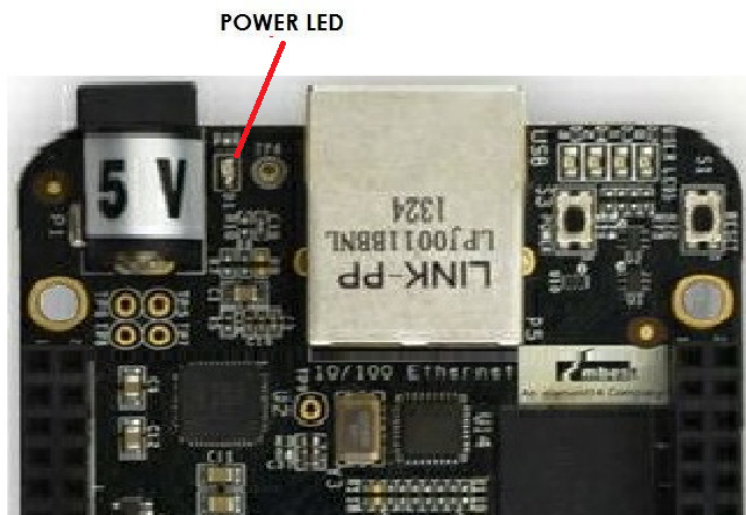

Figure 4 Board Power LED
1. Connect the small connector on the USB cable to the board as shown in **Figure 4**. The connector is on the bottom side of the board.
3. The board will power on and the power LED will be on as shown in **Figure 4** below.